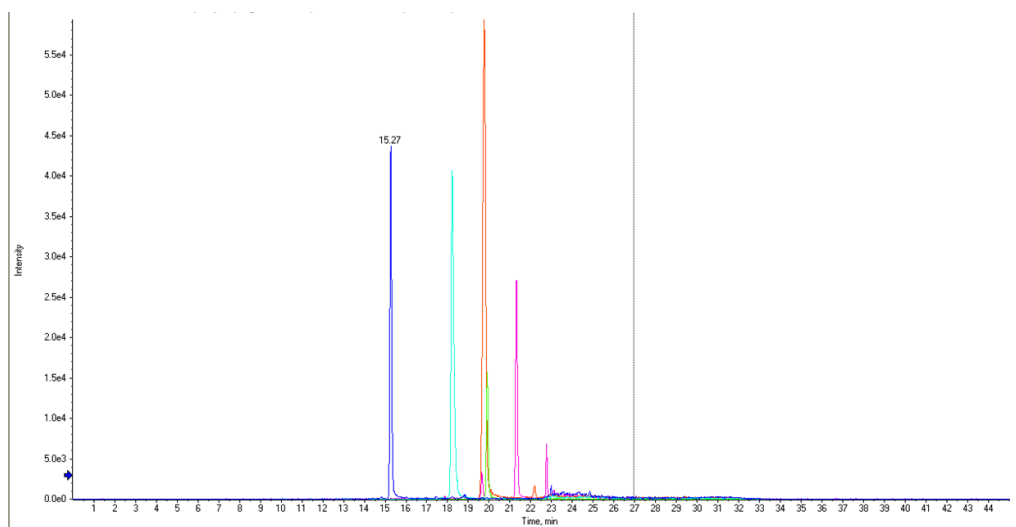

Figure 3-28 MRM XICs of 5 peptides from Beta-Galactosidase NanoLC Ultra pre-column desalting run (10 fmol on column)
3. In the **Extract Ions** dialog, select the 5 MRMs from Table 3-8, and then click **OK**. Figure 3-28 shows typical data for the instrument.
5. Record the retention times of the chosen peaks. This will vary with each system. Time of elution of the first peak (approximately 14 to 16 minutes, as shown in Figure 3-28) indicates dead volume of the system. Minimize dead volume where possible.